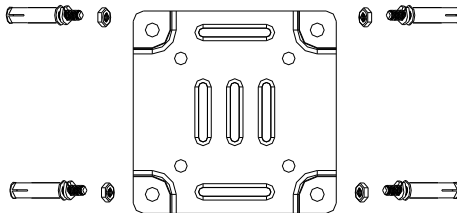

Figure 2-22 Attach the Installation Plate
3. Fix the installation plate and insert M10×80 expansion screws into the screw holes, as shown in Figure 2-22.